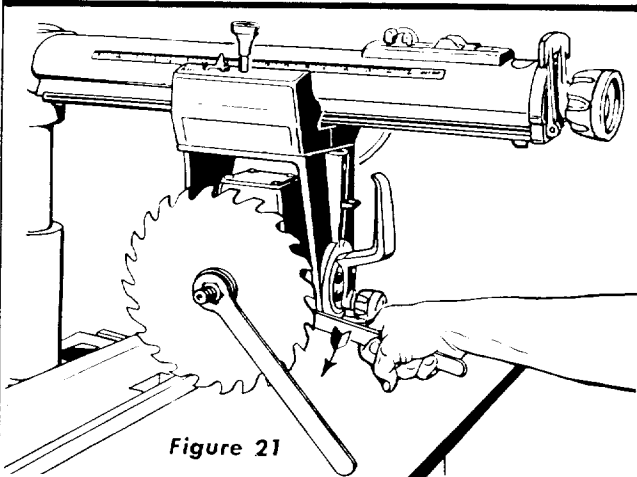

Figure 21
3. **INSTALLATION** (See figure 21.)
- d. Use open-end shaft wrench on flats of shaft and tighten by pushing downward as shown in figure 21.